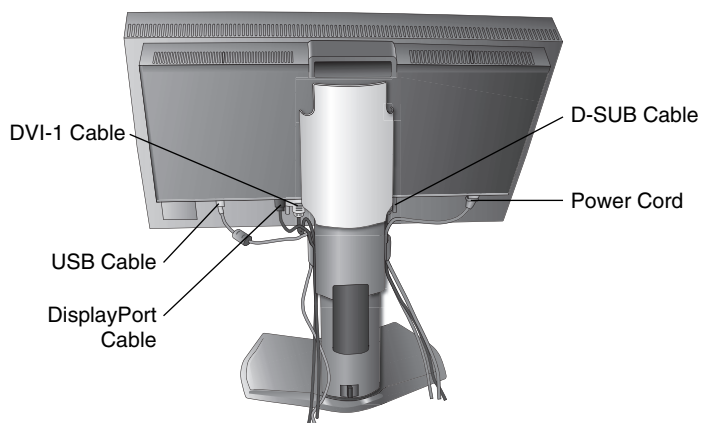
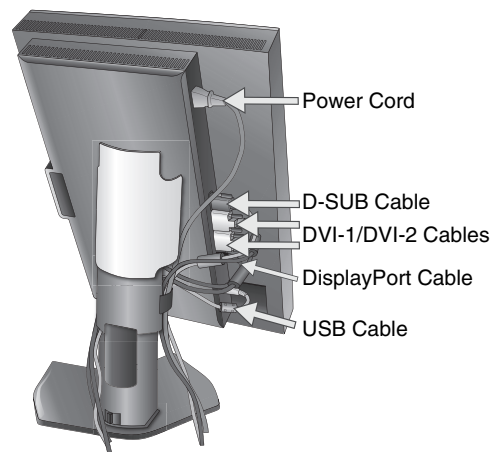

**Figure C.1**
**Figure C.1a**
4. Connect all cables to the appropriate connectors (**Figure C.1**). When using the USB cable, connect the B type connector to the USB upstream port on the right back side of the monitor and the A type connector to the downstream port on the computer (**Figure C.1a**). If using the cord from a USB device, plug into one of the downstream ports of the monitor.